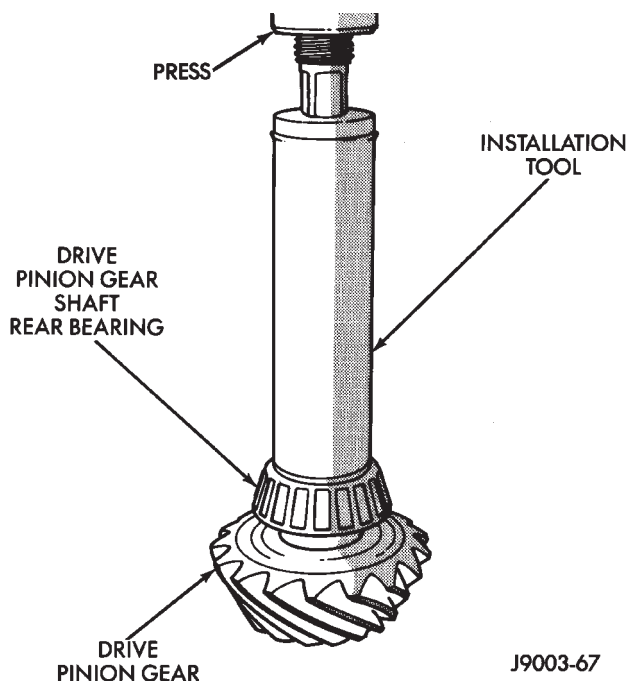

Fig. 33 Shaft Rear Bearing Installation
(7) Place the proper thickness depth shim on the pinion gear.
(8) Install the rear bearing and slinger, if equipped, on the pinion gear (Fig. 33) with Installer 6448.